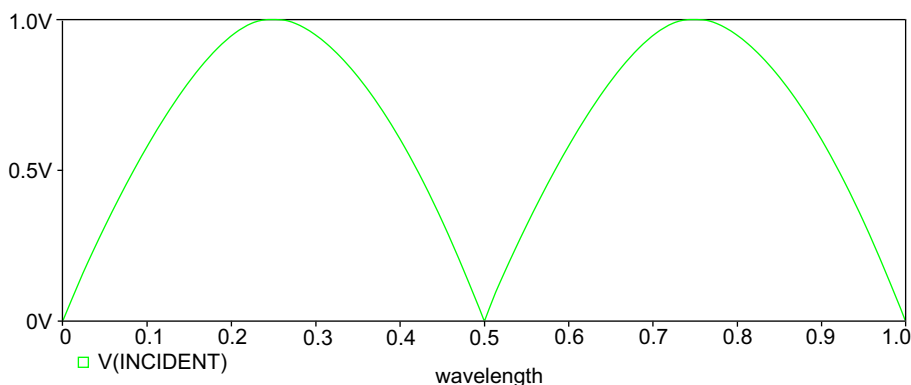

FIGURE 17.25
11. Place a voltage marker on the incident node and run the simulation. In the **Available Sections** window, make sure all sections are highlighted and click on OK. You should see the standing wave pattern in Figure 17.25.